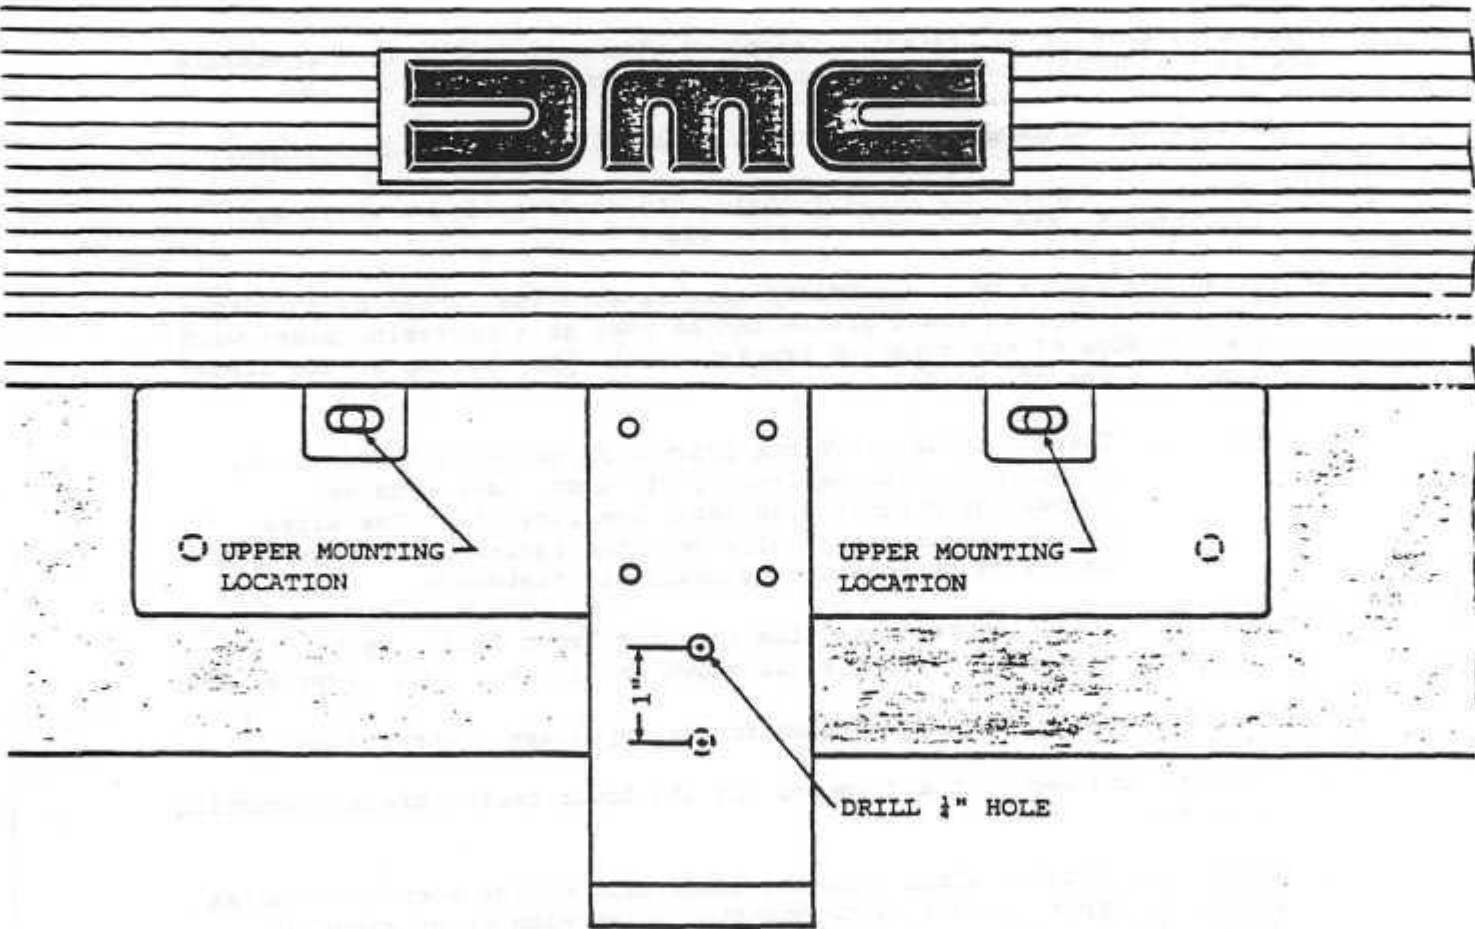

FIGURE 1
3. Drill 3 holes of appropriate size into the front fascia (using the supplied bracket as a templet) as shown in figure 1. (see reverse side)